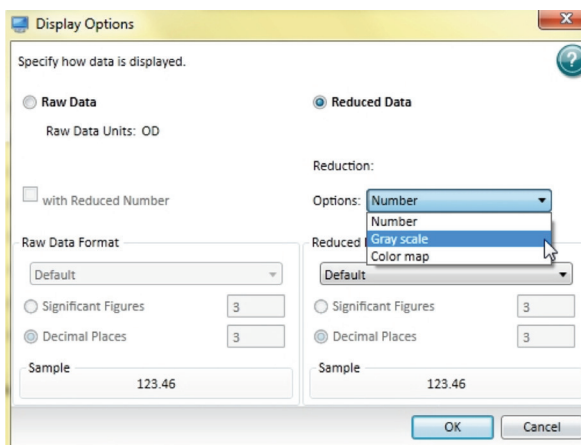

Figure 5. Display Options dialog box. Gray scale and color map options provide a way to quickly visualize the data across an entire microplate.
- For quick visualization of the plate it is useful to display the data using the gray scale or color map option. Click the Display Options button in the Plate section's toolbar to open the Display Options dialog box (Figure 5), then select 'Gray scale' or 'Color map' from the dropdown menu.